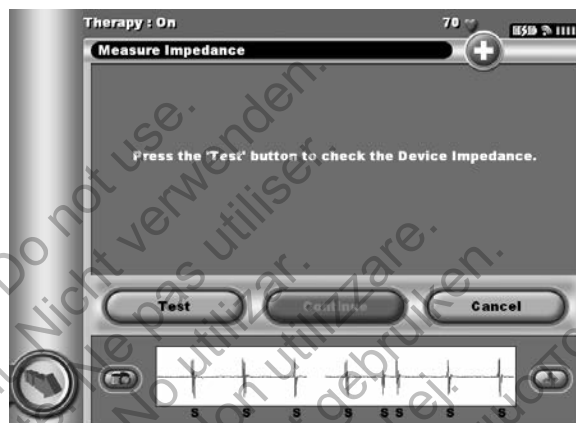

Figure 48: Impedance test screen
2. Select the Test button to perform the electrode integrity test (Figure 48).